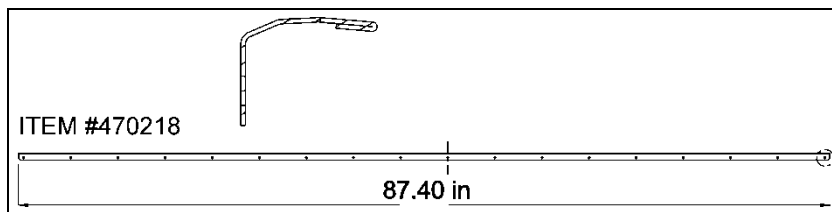

FIGURE 19: H3 SERIES UPPER DRIP EDGE
1. Identify drip edge #470218 and #470219 (FIGURE 19 & FIGURE 20).